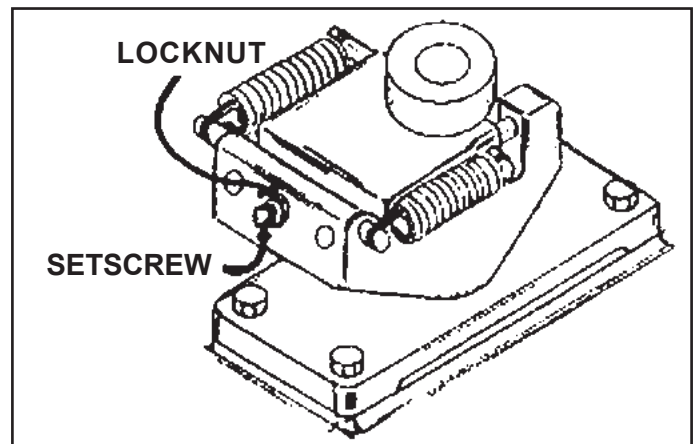

Figure 6
3. Drive Slide adjustment is to stop the crank plate in the center, when releasing the rounding lever, See Fig. 6. The crank plate must be removed to make this adjustment. (To remove crank plate, see instructions on page 10, Item 7) Loosen lock nut and turn set screw counter clockwise, to allow drive slide to come back to center. Tighten lock nut. If drive slide is coming back beyond center, loosen lock nut, turn set screw clockwise, pushing drive slide to center. Tighten lock nut.